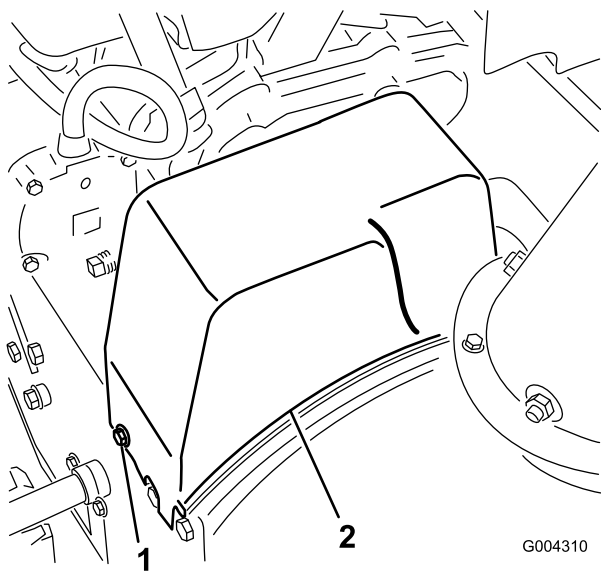

Figure 30
2. Remove the 2 flange-head bolts that hold the belt cover in place and set the cover aside (Figure 30).
1. Remove the 2 flange-head bolts that hold the belt cover in place and set the cover aside (Figure 30).